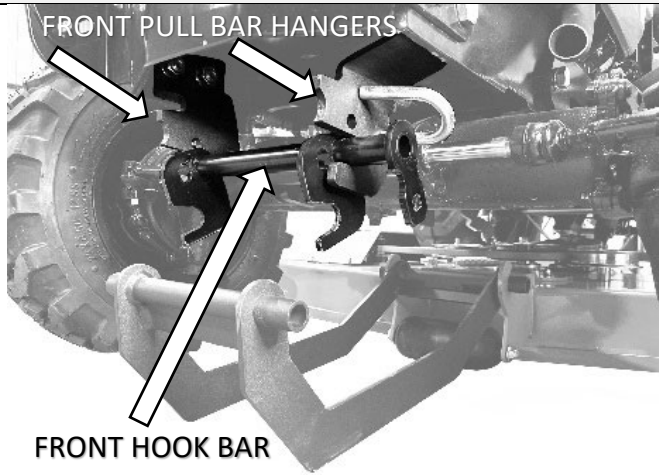

Figure 8C
8. Place the Front Hook Bar into the Front Pull Bar Hangers as indicated (Figure 8C).